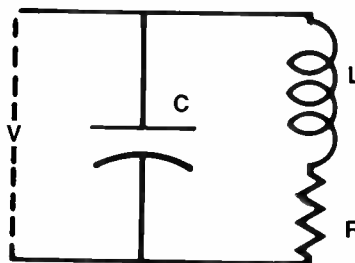

Figure 2. Parallel resonance with R present. Note that I_L and I_C do not completely cancel because of OV_R .
Figure 2 shows a circuit with resistance (R) in series with the inductance. The voltage (V) that exists across the coil and capacitor is shown by vector OV at 0°. The current I_C leads V by 90°, as shown by vector OI_C on the positive Y axis, which is 90° ahead of OV. Correspondingly, vector OI_L depicts the 90° lag of the current I_L behind V.
current lagging or leading. As the circuit in Figure 2 illustrates, the resistance is in series with the coil, so there will be less than 90° of current lag in the inductive arm of the circuit. The lower the Q of the coil is, the greater the effect will be. If Q were high, the effect of R would be much less, and I_L would have almost 90° of lag behind V. In Figure 2, it is assumed that Q is high, so the effect is small, and OI_L is shown with approximately 20° less lag. Because the voltage across it must lead, vector OV_L is drawn with a 90° lead.
Now we can consider what happens at true resonance. The Y axis components should be equal in magnitude and 180° out of phase. This is shown by OI_C and OI_L in Figure 2. When these two vectors are added, they will cancel, and only vectors